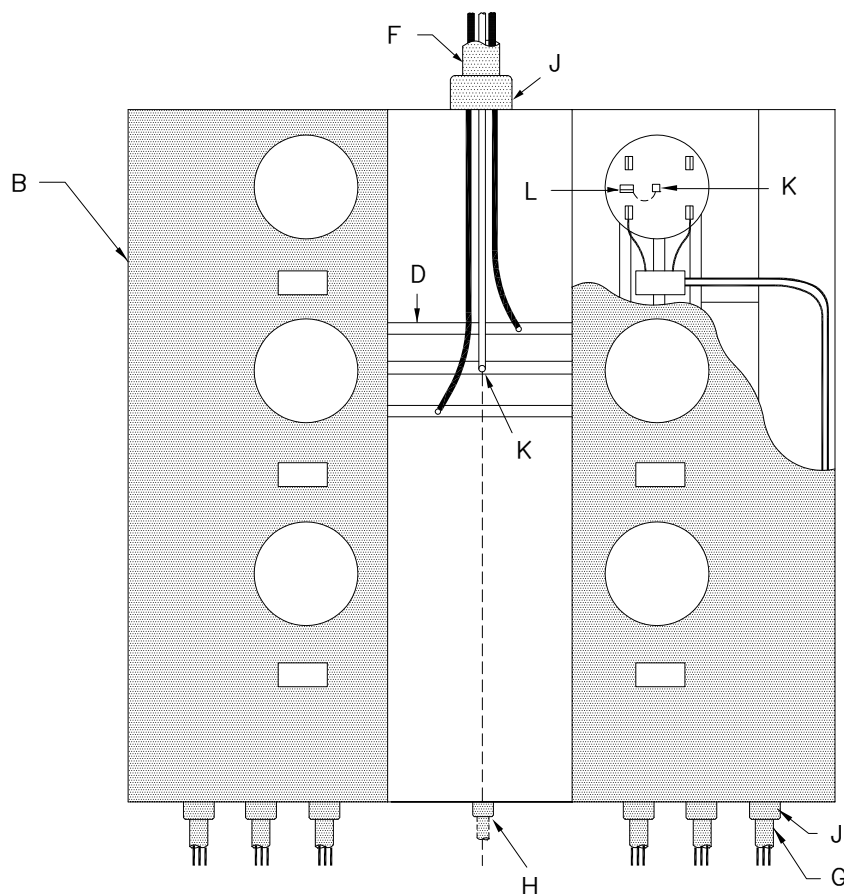

FIGURE 2
2. FOR THE INSTALLATION OF AN ALL-IN-ONE TYPE, MULTI-POSITION METER PANEL, CUSTOMER TO FURNISH, INSTALL AND MAINTAIN THE FOLLOWING EQUIPMENT (SEE FIGURE 2):